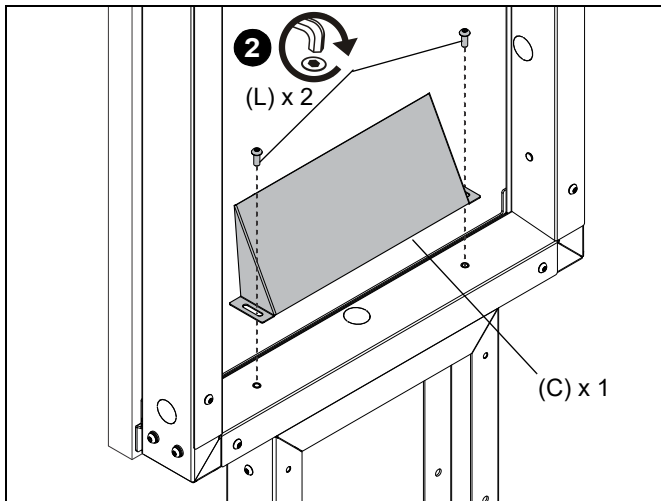

Figure 25
2. **CONFIGURATION 2 ONLY:** Install one port cover (C) to the bottom horizontal cover using two M8 x 20mm security screws (L). (See Figure 25)